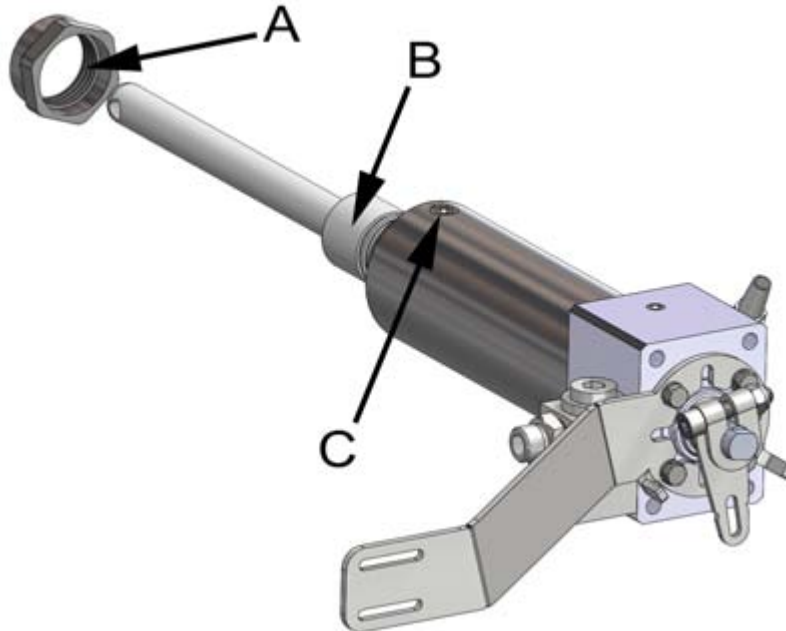

Figure 40. Installing the cylinder
1. Treat the threads of the hydraulic cylinder nut (figure 40, point A) with sealing compound (e.g. Sikaflex 221).
2. Screw the nut all the way down on the thread at the end of the cylinder pipe (figure 40, point B).